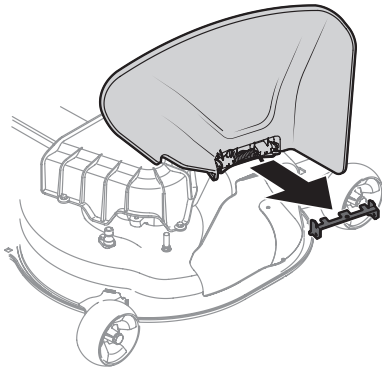

Figure 8
- Lower the chute deflector and discard the shipping brace (Figure 8).